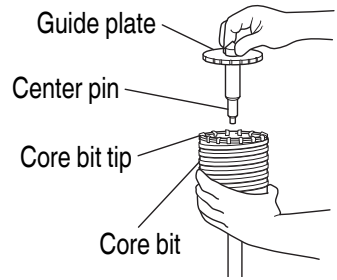

Fig. 27
- (3) Insert the center pin into the guide plate until it stops.
- (4) Engage the guide plate with the core bit, and turn the guide plate to the left or the right so that it does not fall even if it faces downward (**Fig. 27**).